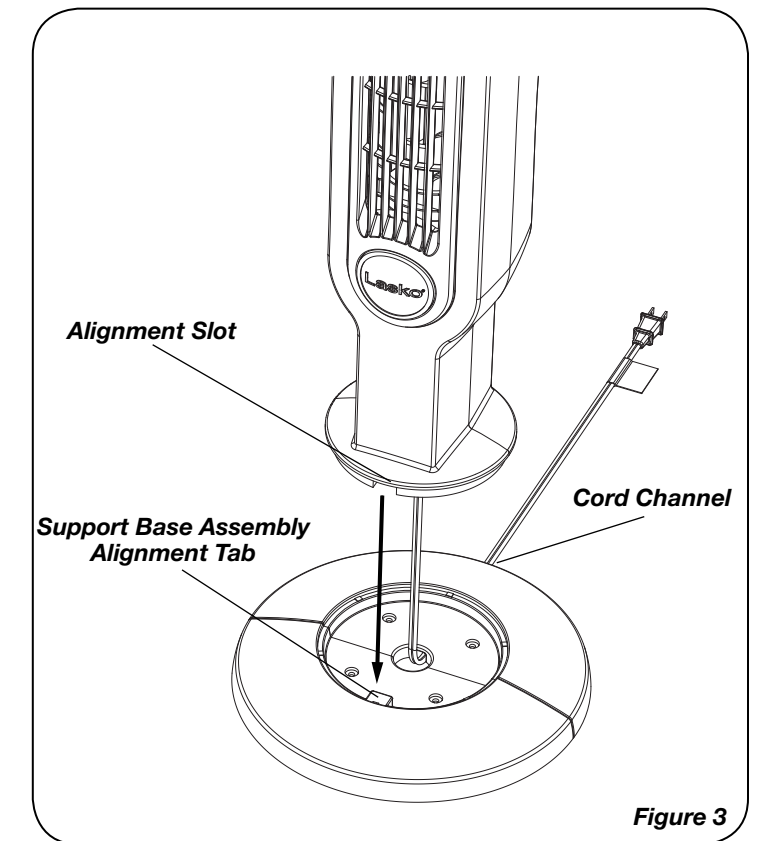

Figure 3
- Align the **Support Base Assembly Alignment Tabs** with the alignment slots on the bottom of the fan, noting that the cord channel on the bottom of the support base should be towards the back of the Fan. (*Figure 3*)